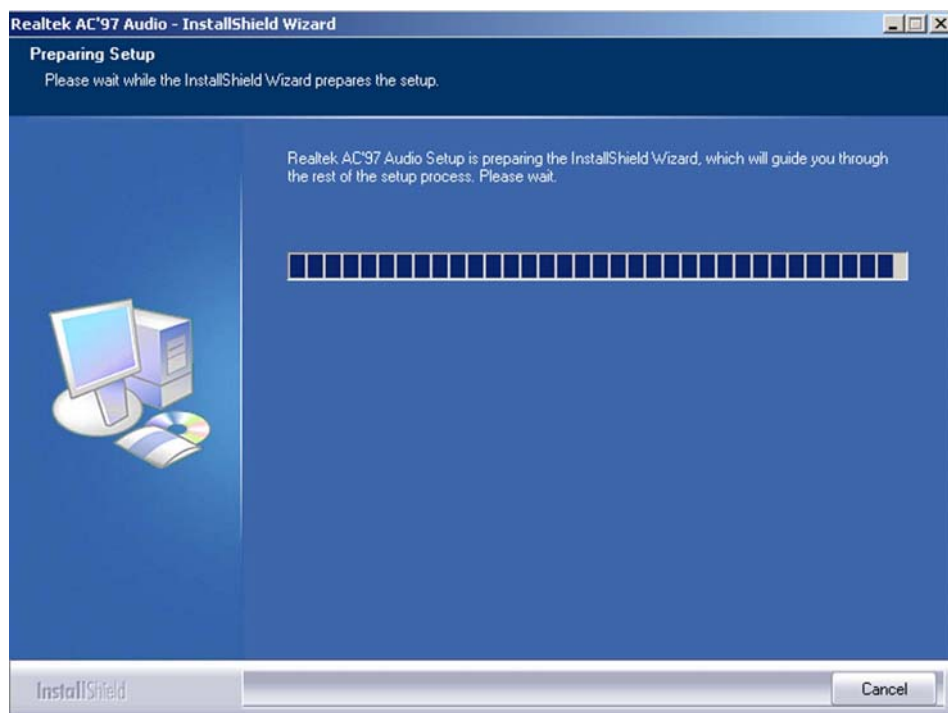

Figure 6-13: Audio Driver Setup Preparation
Step 3: The RealTek Audio Setup prepares the install shield to guide you through the rest of the setup process. See **Figure 6-13**.